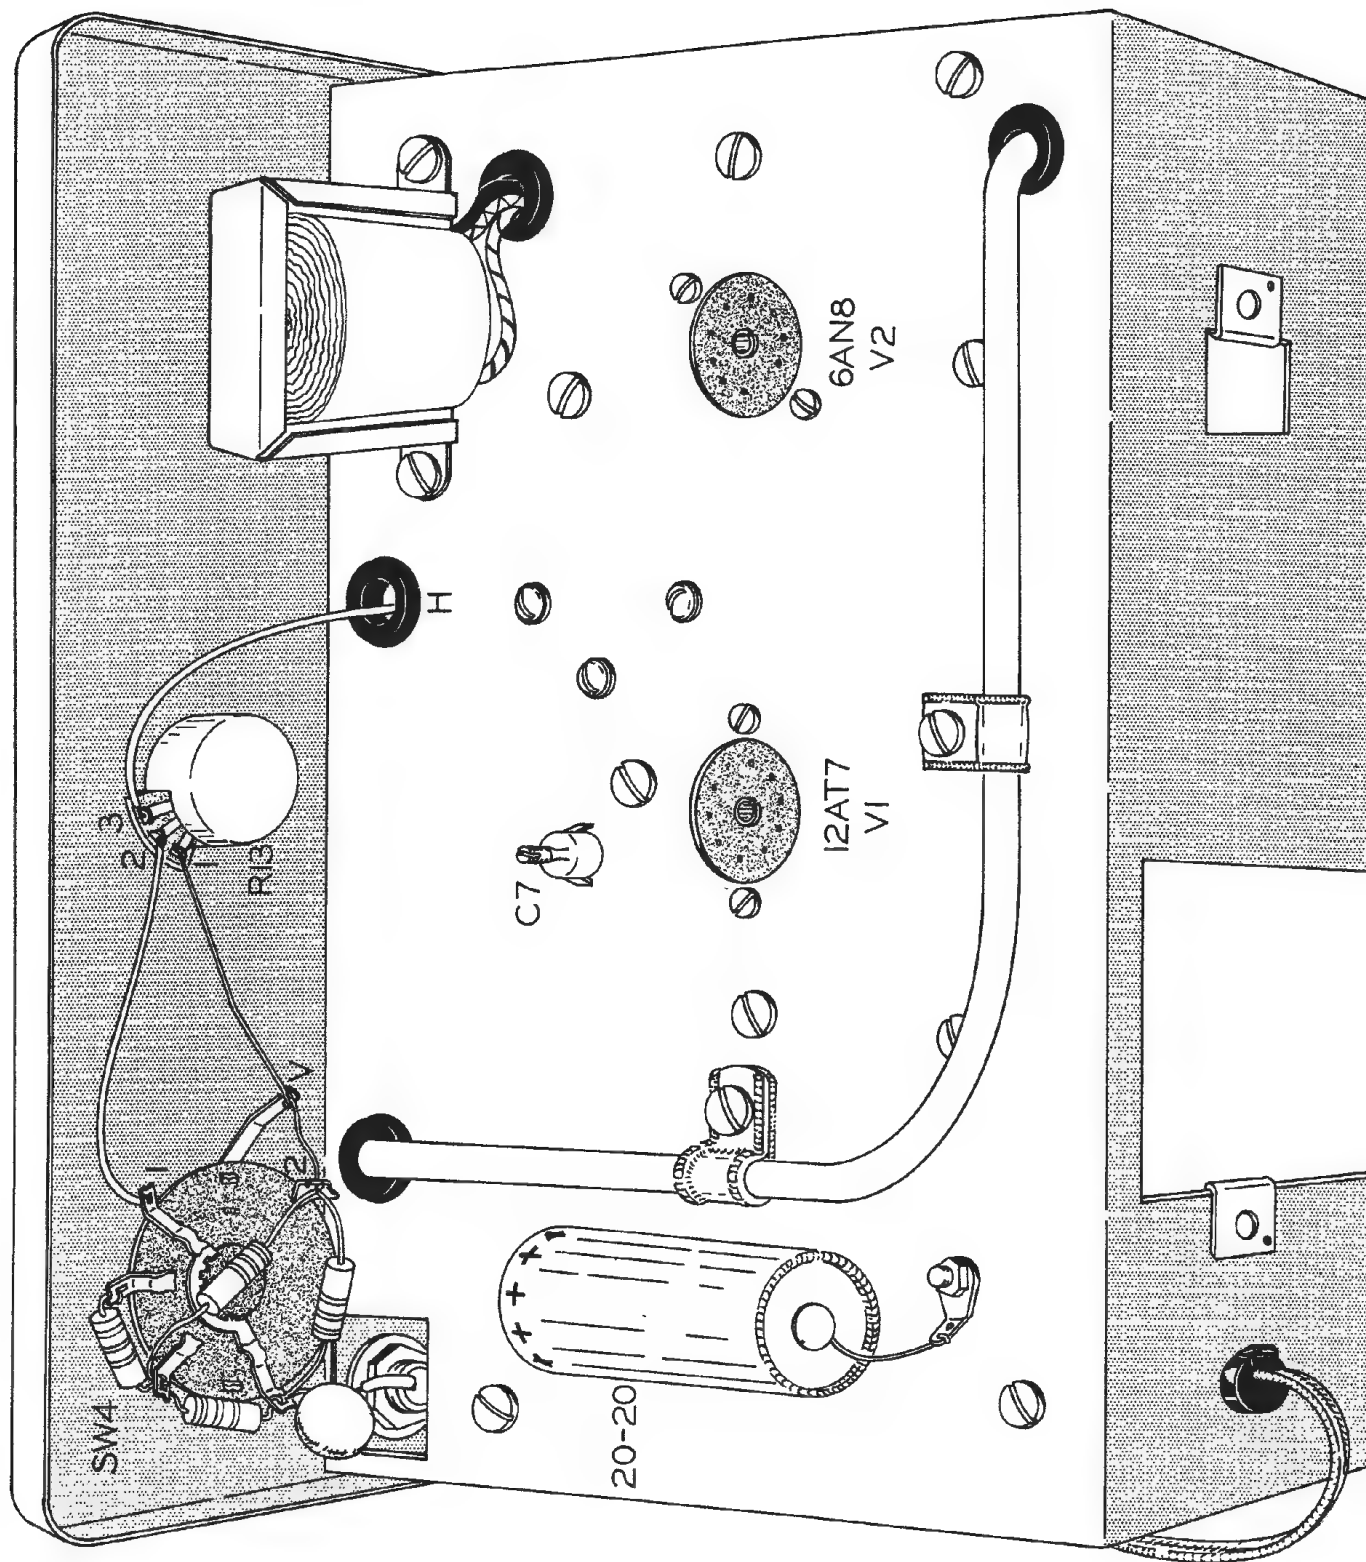

Figure 9
- () Turn the unit over and install the two cable clamps as shown in Figure 9. Use 6-32 x 3/8" BHMS.
- () Install the 12AT7 and 6AN8 tubes, V1 and V2. Refer to Figure 9.